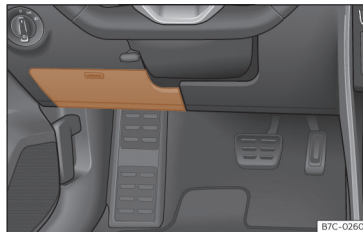

Fig. 187 On the dashboard on the driver side: lid of the fuse box.
- *Open:* fold the cover down >>> **Fig. 187**.